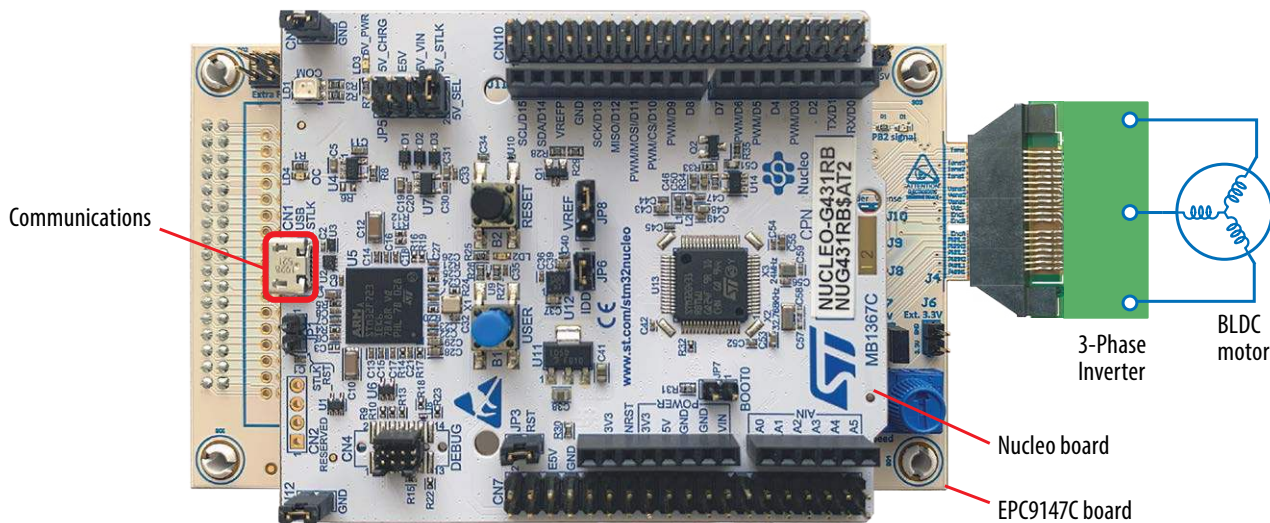

Figure 2: Application overview of the EPC9147C control interface board
The EPC9147C includes a standard STMicroelectronics STM32 NUCLEO-G431RB motor drive development board compatible connector (J11 & J12) that interfaces the PWM, analog feedback signal, errors states and 3.3 V power to the motor drive inverter board as shown in figure 2.
1. Verify that the ST Nucleo G431RB is properly mounted on the EPC9147C as shown in Figure 2.